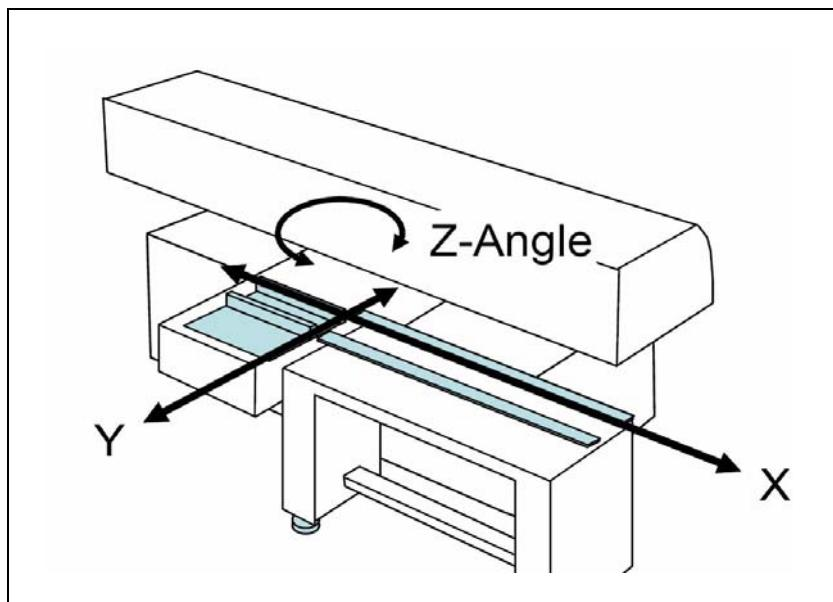

Figure 2-34. Align the fixed rail of the upstream conveyor.
2. Adjust the X gap between the upstream conveyor and the T conveyor to a few millimeters gap between the hoods. Then align the fixed rail on the upstream conveyor with the fixed rail on the T conveyor. The best tool to use is a metal ruler that is positioned on top of the conveyor belts, and then pushed against the rails. Make the alignment to within 1 mm in Y and in Z-Angle, as shown in Figure 2-34.